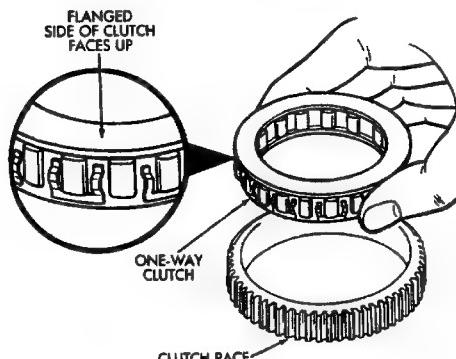

Fig. 21 Assembling One-Way Clutch And Race
(2) Install one-way clutch in race (Fig. 21). Flanged side of clutch must face upward as shown.
(3) Install assembled one-way clutch and outer race in planetary gear. Be sure flanged side of clutch is facing upward.
(4) Install clutch pack retaining plate and snap ring in planetary gear.